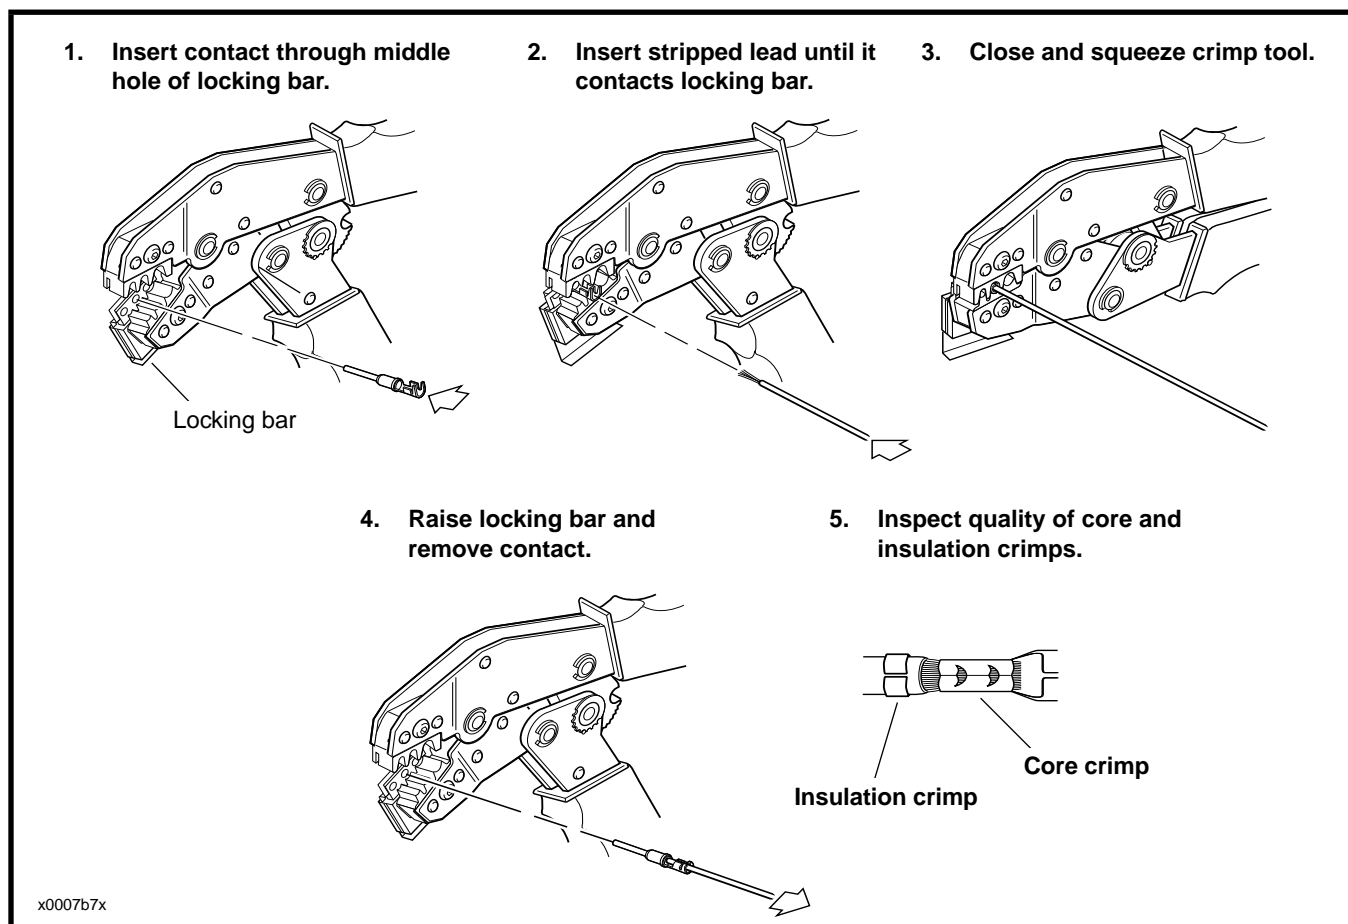

Figure 7-49. Deutsch Crimping Procedure
1. See Figure 7-49. Squeeze the handles to cycle the **DEUTSCH TERMINAL CRIMP TOOL** (Part No. HD-39965) to the fully open position.